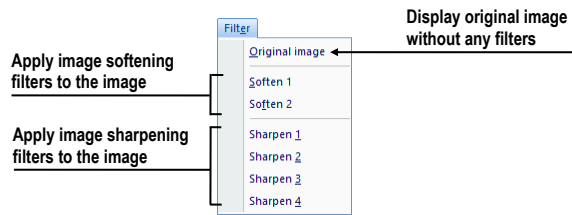

Figure 39 – Filter menu
- **Filter** – filters for image softening or sharpening in the current view (see Figure 39).